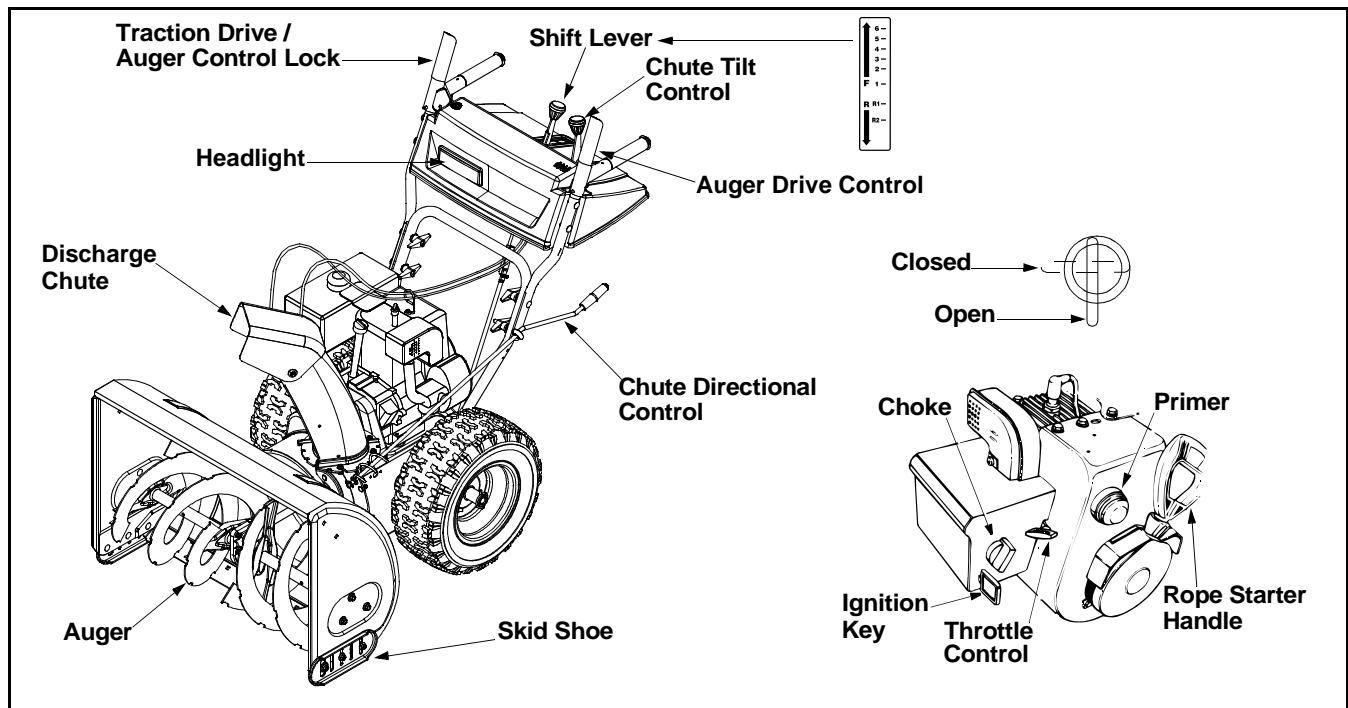

Figure 7
- Move the shift lever into sixth (6) position.
- a. With the traction control (refer to Figure 7) released, gently push the snow thrower forward, then pull it back. Disregarding the overall weight of the snow thrower, the machine should otherwise move freely.
The traction control is located on the right handle. Squeeze the traction control to engage the wheel drive. Release to stop. See Figure 7.
The auger drive control is located on the left handle. Squeeze the control grip to engage the augers. Release to stop the snow throwing action. (Traction control must also be released.) See Figure 7.
The shift lever is located in the center of the handle panel and is used to determine both ground speed and direction of travel. It can be moved into any of eight positions. See Figure 7.
The chute directional control is located on left side of the snow thrower. See Figure 7.
adjusting the angle of the chute assembly. Move the chute tilt control forward to decrease the distance and toward the rear to increase the distance. See Figure 7.
The position of the skid shoe is determined by the condition of the ground from where snow has to be removed. See Figure 7.
The ignition key must be inserted in the switch before the unit will start. Remove the ignition key when snow thrower is not in use. See Figure 7.
The throttle control is located on the engine. It regulates the speed of the engine. See Figure 7.
The fuel shut-off valve, located under fuel tank, control fuel flow from tank. See Figure 7.
- Make certain the fuel cutoff valve is in the OPEN (vertical position). See Figure 7.
- Move throttle control up to FAST position. Insert ignition key into slot. See Figure 7. Be certain it snaps into place. **Do not turn key.**